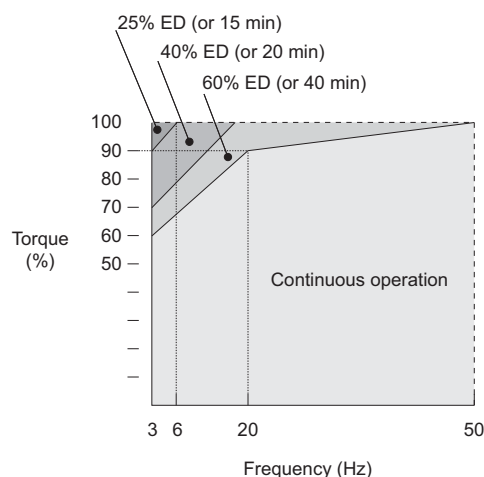

Figure i.2 Allowable Load Characteristics for a Yaskawa Motor
*Figure i.2* shows the allowable load characteristics for a Yaskawa standard motor. A motor designed specifically for operation with a drive should be used when 100% continuous torque is needed at low speeds.